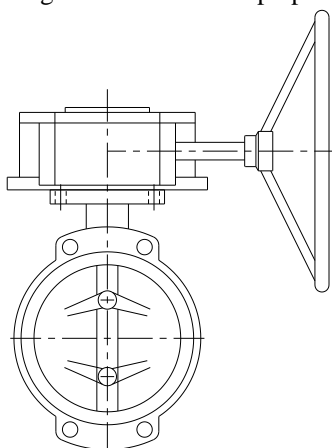

figure 3 : Gearbox perpendicular to the valve
10. The gearbox is mounted perpendicular to the valve (see figure 3).